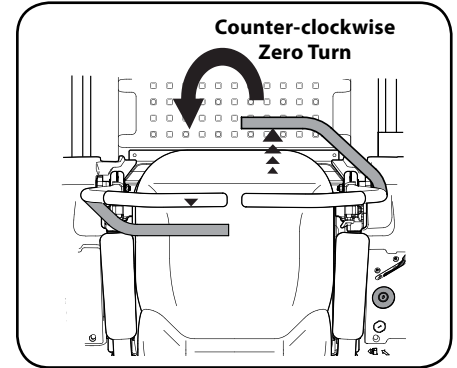

Figure 3-9
3. To turn counter-clockwise, move the right control lever forward while simultaneously moving the left control lever rearward. See Figure 3-9.